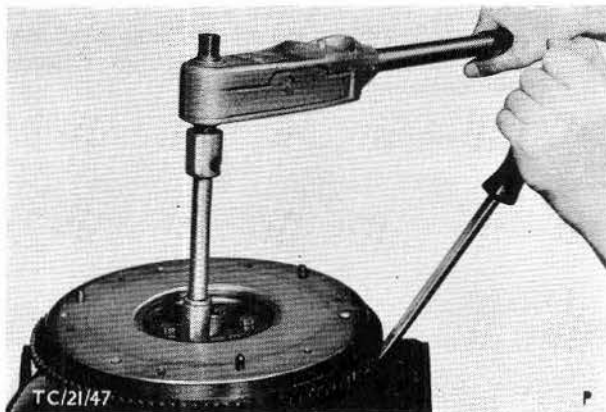

Fig. 51. Fit flywheel.
47. Invert engine and position rear cover. Fit flywheel, Fig. 51, and torque as specified in Technical Data.